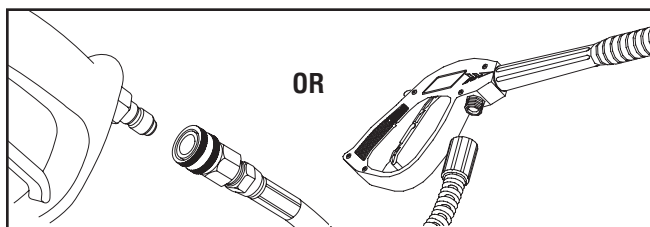

Figure 11 — Connect High Pressure Hose to Spray Gun
- 1A. Uncoil high pressure hose and attach one end of hose to base of spray gun (see Figure 11). Tighten by hand.
- 1B. If unit is supplied with quick connects on high pressure hose and spray gun, attach quick connect end of hose to base of spray gun (see Figure 11). Pull down on collar of quick connect, slide onto spray gun and let go of collar. Tug on hose to be sure of tight connection.